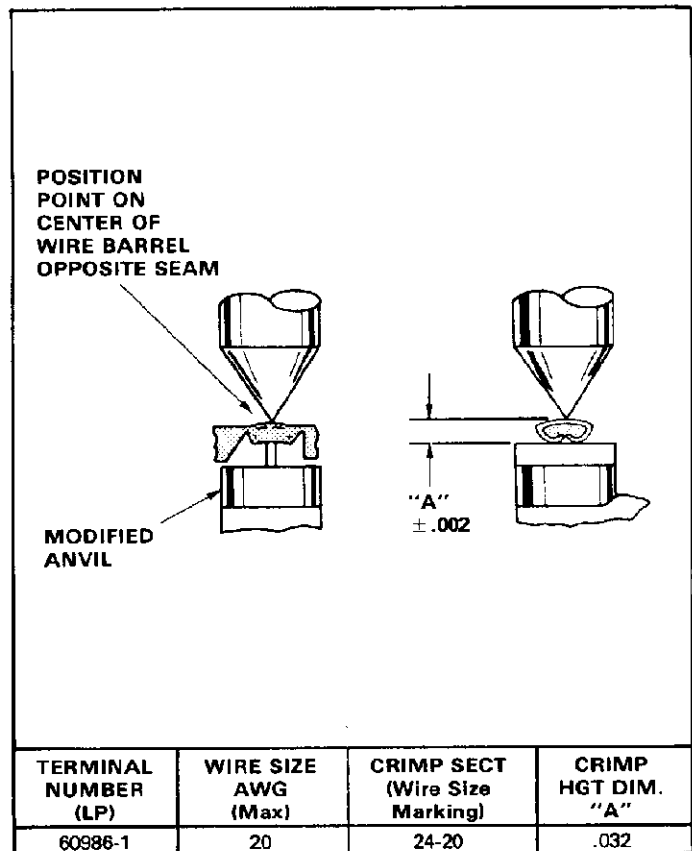

Fig. II-2
This inspection requires the use of a micrometer with a modified anvil as shown in Figure II-2. We recommend the modified micrometer (Crimp Height Comparator RS-1019-5L) which can be purchased from:
1. Refer to the chart in Figure II-2, and select a terminal and a wire (maximum size) for each crimp section listed in the chart.
3. Using a crimp height comparator, measure wire barrel crimp height as shown in Figure II-2. If the crimp height conforms to that shown in the chart, the tool is considered dimensionally correct. If not, return the tool to AMP for evaluation and repair (see Paragraph II-3, REPAIR).
1. Select a terminal and wire (maximum size) for the tool (see Figure II-2).